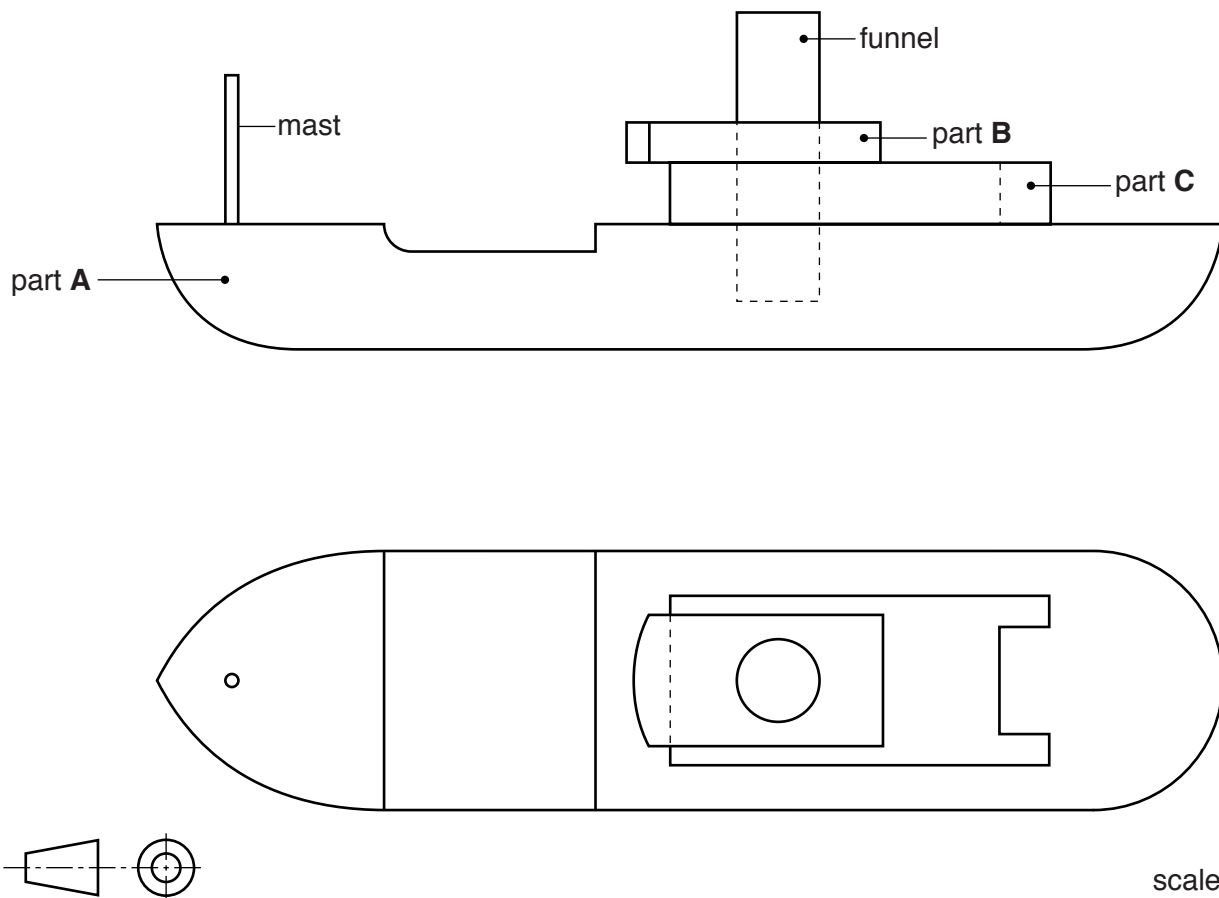

Fig. 3
- 3 Fig. 3 gives details about a toy boat, made from softwood, which is to be produced in a school workshop. The toy boat is made out of five parts which a child can take apart and put back together.